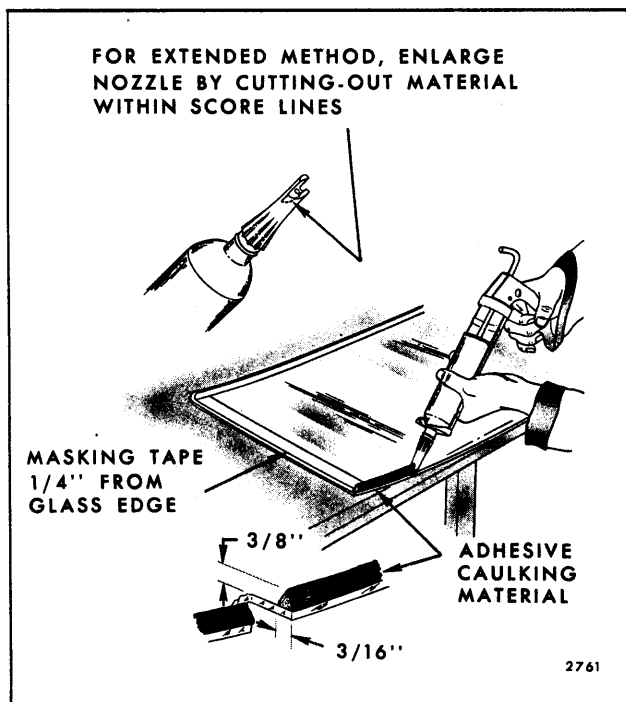

Fig. 4-10—Adhesive Material Application - Extended Method
11. Remove glass from opening and apply one-inch masking tape around inner surface of glass 1/4" inboard from outer edge (Fig. 4-10). On windshield installations, apply tape to top and sides only. Do not use tape across bottom. Removal of tape after glass installation will aid in clean-up and give a smooth, even edge to adhesive material.
13. Nozzle furnished in kit is designed for "short" method. For the "extended" method, enlarge nozzle opening by removing material within score lines as indicated in Figure 4-10. Do not notch nozzle beyond score lines.
15. With caulking gun and nozzle positioned as illustrated in Figure 4-10, carefully apply a smooth continuous bead of caulking material $3/8$ " high by $3/16$ " wide at base completely around inside edge of glass.